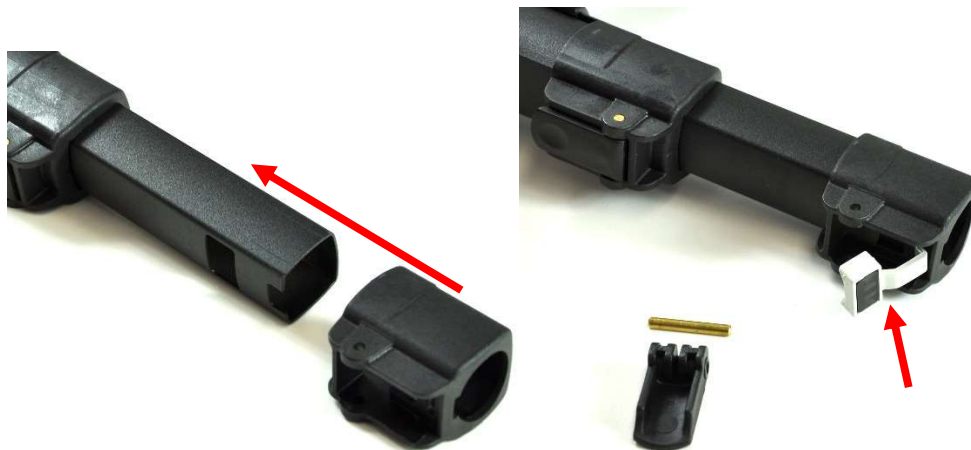

Figure 67: Reassembling Camlock Middle.
- Align the camlock body middle so that its square hole lines up with the hole in the middle shaft then press the camlock body onto the middle shaft. Shown in Figure 67.